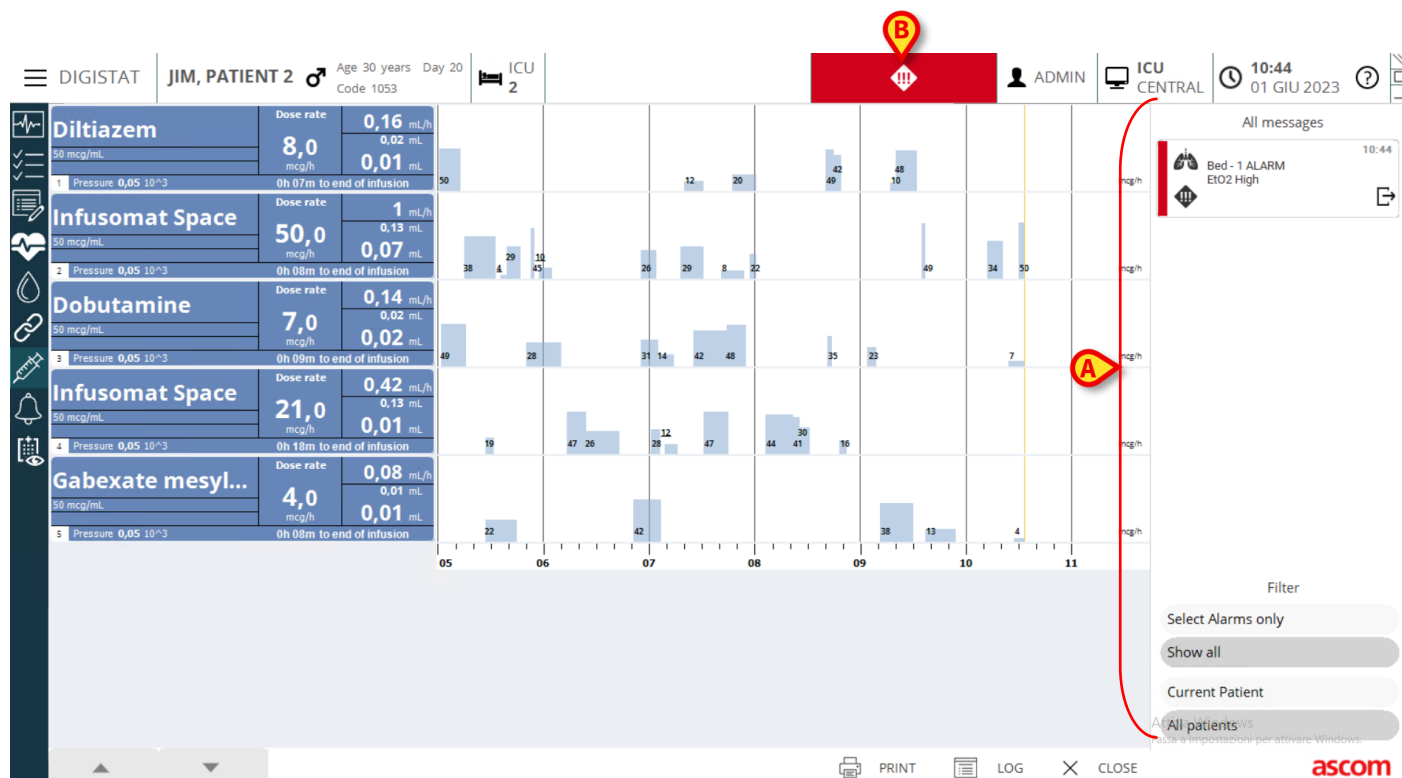
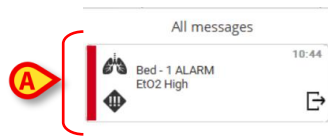

Fig 7
Fig 8
A notification area is displayed on the right of every “Infusion” screen and it shows the notifications sent by the connected pumps (Fig 7 **A**, Fig 8).
- Only visible after user click on the notification button on “Control Bar” (Fig 7 **B**).
The different messages are displayed in chronological order, (most recent on top - Fig 8 **A**) and by criticality (high priority on top, then medium, then low).
At the bottom of the area, four different filters are available, making it possible to choose the type of message to be displayed (Fig 8 **B**). The available filters are: